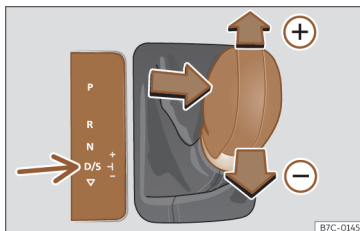

Fig. 140 Centre console: tiptronic transmission
- Push the lever forwards or backwards to move up or down a gear >>> **Fig. 140**.